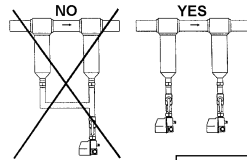

fig. 1
2) Each condensate source must be drained separately, see fig.1.